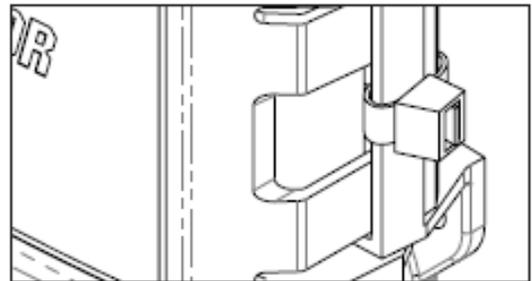

Figure 3b
4. Ensure that the two network cables and ground wire are seated properly into the cable grommet, then close and secure the latch on the lid. NOTE: The provided tie-wrap can be installed onto the latch as shown in Figure 3b to provide additional protection against extreme weather.